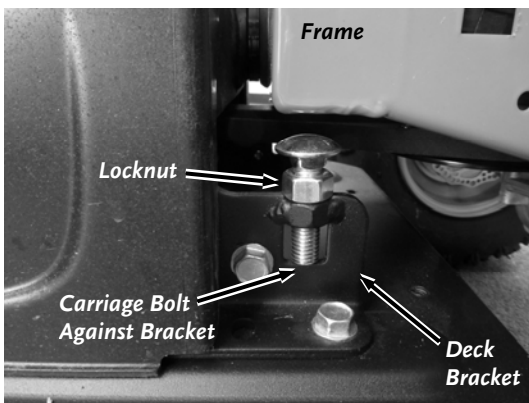

Figure 14
There are two Deck Pivot Carriage Bolts on your DR Field and Brush Mower Deck. The machine should have been shipped with both Bolts in the lowest position (**Figure 14**). If they are not both in the lowest position, perform the following procedures.
1. Loosen both Locknuts using a 3/4" Wrench as you hold the square portion of the Carriage Bolts using a 1/2" Wrench (**Figure 14**). Turn the Locknut up against the Bolt Head.